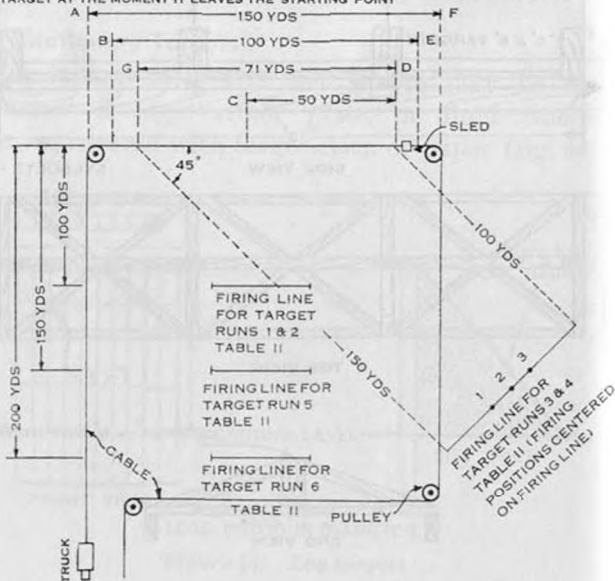

Figure 46. Alternate moving target range.
frame target, 6 feet by 18 feet, and cover it with target cloth or heavy paper (fig. 45). Mount the target on a sled and tow it, using a vehicle (fig. 46). The construction of the sled and the target is illustrated in figure 45. Any other type of moving target that has the same dimensions and is capable of attaining the speeds called for in table II may be used.
- (1) An officer or designated noncommissioned officer scores each man firing for record.
- (2) For firing target runs 2 and 3, the diagonal target run, the firing points are spaced at 5-yard intervals. Every third firing point is used on one target run.
- (3) Each firer has a loader to assist him on the firing line. During firing, the loader completes the loading operation and taps the gunner to indicate that loading is complete. This is the extent of his assistance to the gunner.
- (4) The ranges and the course of the moving targets are shown in tables I and II. A distance of 25 yards between stakes A-B and E-F (fig. 46) is allowed to permit the tank to reach the prescribed speed before making the target run. This distance may be increased when necessary. See figures 46 and 47.
- (5) The launcher is loaded before each moving target begins its run. Practice ammunition is used for firing.